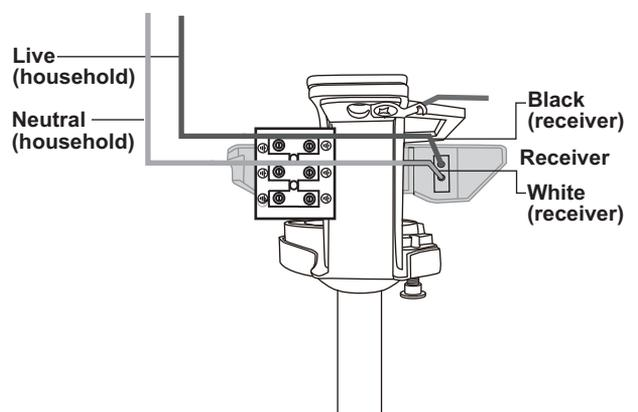

Figure 9
4. Connect the white, neutral receiver neutral wire to the neutral household neutral wire. Connect the black, Live/hot receiver Live/hot wire to the Live/hot household Live/hot wire (Fig. 9 & 11).